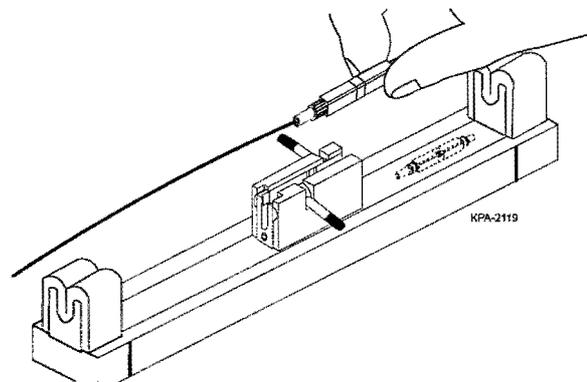

Figure 14 — Lift CamSplice out of Tool
- c. Pull back on the right fiber and then remate it against the left fiber. Once inward pressure is felt, rotate the right lever to 45 degrees (Figure 14) and recheck the loss.